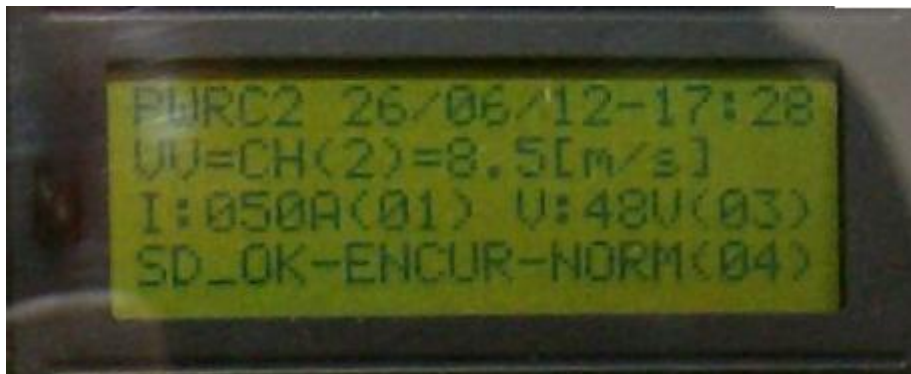

Figure 15 LCD in Normal Test / in progress with Modbus communication
For the test to progress and establish Modbus communication with the central system, once launched, both switches S1, S2 must be lowered to the Normal/Modbus position (as in Figure 2). In this case, the display will be as shown in Figure 15 indicating the state SD\_OK-ENCUR\_NORM (04). Here through the keys above (↑) or below (↓), Channel 2 has been selected, which is the wind speed read from the outdoor METEO station.